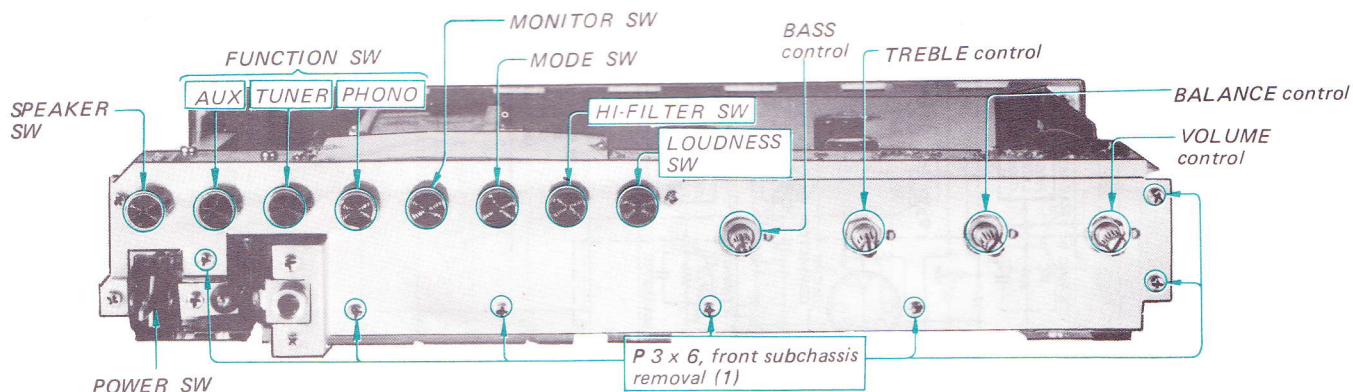

Fig. 2-2. Front subchassis removal (1)
2. Remove the seven screws shown in Fig. 2-2.